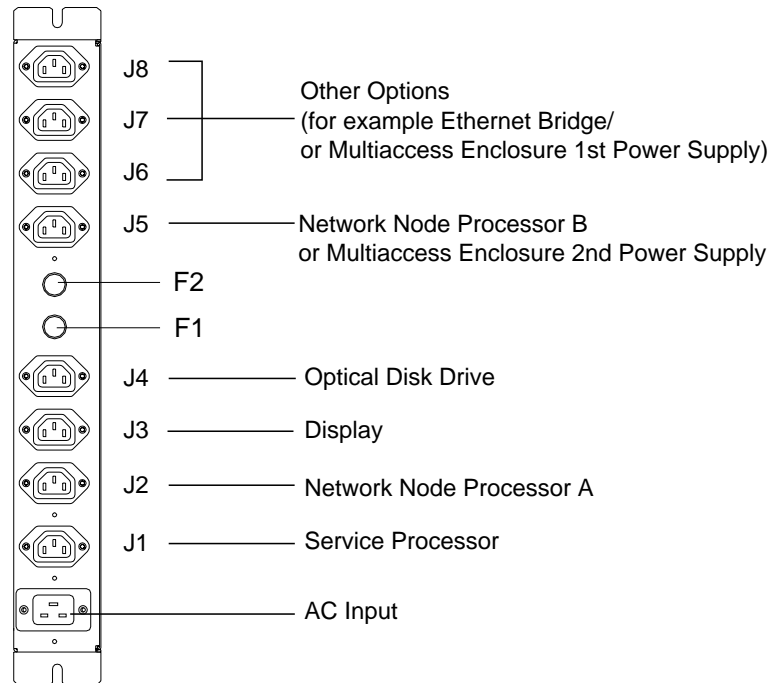

Figure 44-9. Power Plugging on a Single AC Outlet Distribution Box
2. The Network Node Processor A and Network Node Processor B should be plugged into different blocks of the AC outlet distribution box so that if the fuse should blow on one block, one Network Node Processor will still be powered from the other block and thus continue operation. Referring to Figure 44-9 on page 44-47, Network Node Processor-A is plugged into socket J2, and Network Node Processor-B is plugged into J5.
The eight outlets are configured in two blocks of four; each block is protected by a fuse. See Table 44-10 and Figure 44-9 on page 44-47.